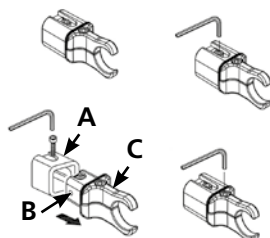

**Fig 1**
2. The Wall Sleeve (**A** in *Fig. 1*) screws into the wall in the positions as described above.
3. Attach clamps **B** & **C** to collector, between the 2nd and 3rd element above and below do not overtighten (*Fig.1*) this, to allow slight adjustment for inserting into wall sleeves.